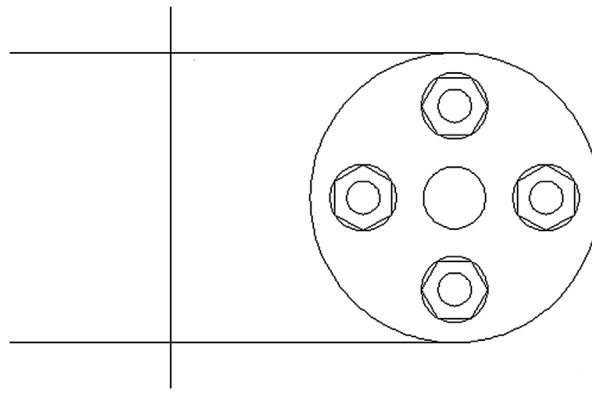

FIGURE 8.27 Projection lines.
Step 7. You now have to project the main body of the part based on this top view. The best way is by drawing two horizontal guidelines, of any length, starting from the top and bottom quadrants of the big circle; then, draw an arbitrary vertical line to mark the beginning of the part on the right, as shown in Fig. 8.27.